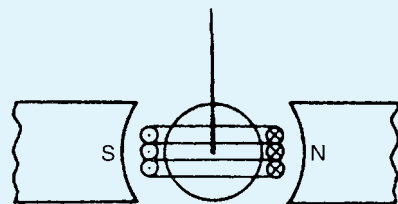

Figure 8.19
- Figure 8.19 shows a simplified diagram of a section through the coil of a moving-coil instrument. For the direction of current flow shown in the coil determine the direction that the pointer will move.